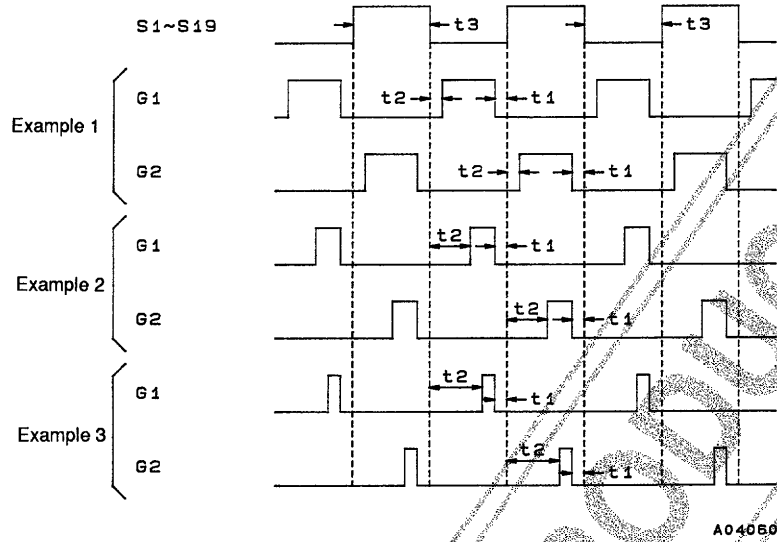

Figure 4
1. Consider the examples shown in Figure 4, where data is set up so that the segment outputs S1 to S19 output a low level on the G1 digit output timing and a high level on the G2 digit output timing. (Here, the G2 side being lighted)